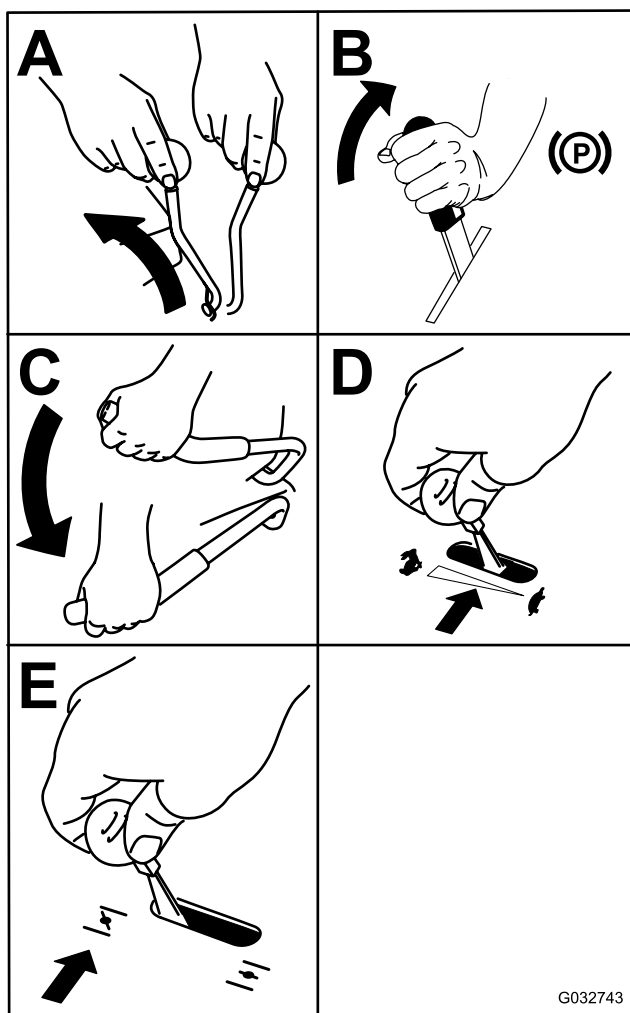

Figure 21
3. Move the PTO-engagement lever to the OFF position (Figure 21).
6. Turn the key to the START position (Figure 21). When the engine starts, release the key.